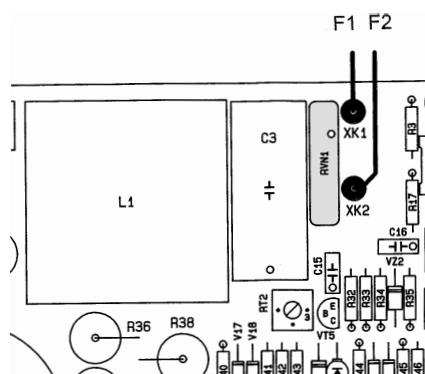

FIG. 1 REF. 1
1. Check the general conditions of the electronic circuit ref. 1, particularly:
- the varistor (fig. 1) if it presents bursting marks